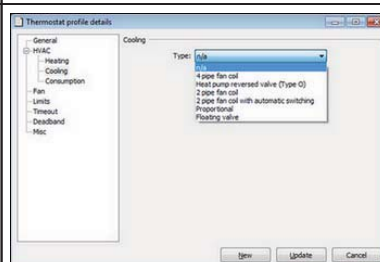

Figure 45
7. At **Cooling**, make the applicable choice in the drop-down-menu; the available alternatives are shown in Figure 45. For the below alternatives, further settings can be made; click the links for details.